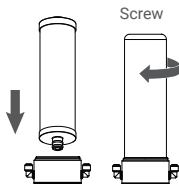

Figure 8
3. Insert the new filter cartridge into the designated slot and continue pushing until it reaches the final position. Once in place, tighten the housing to secure the cartridge. (Figure 8)